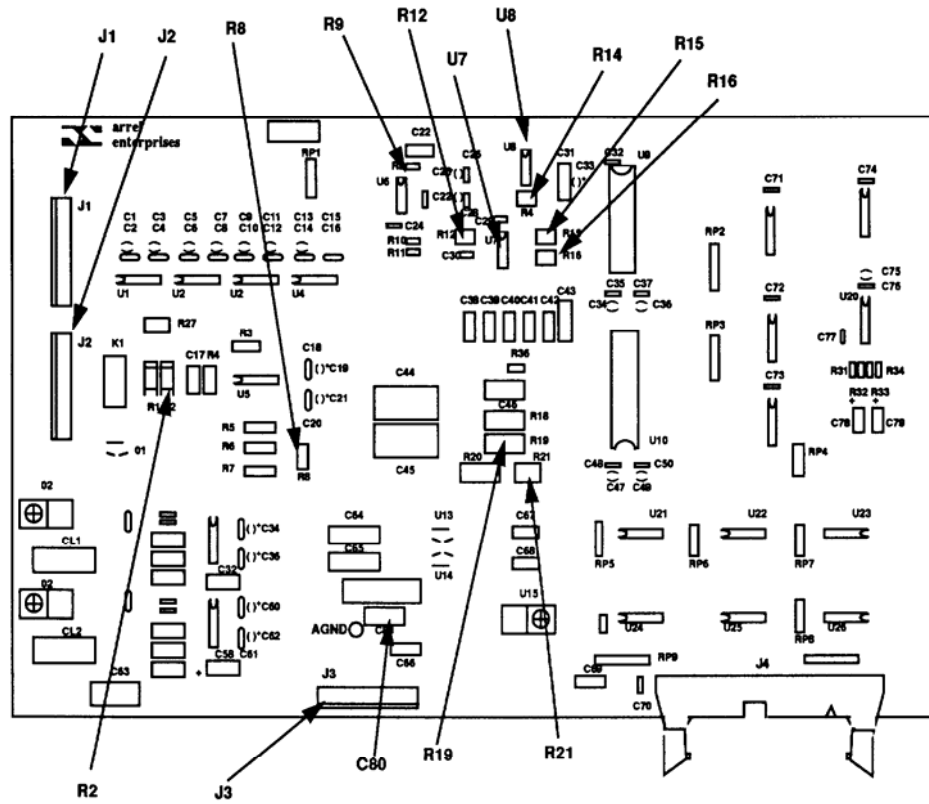
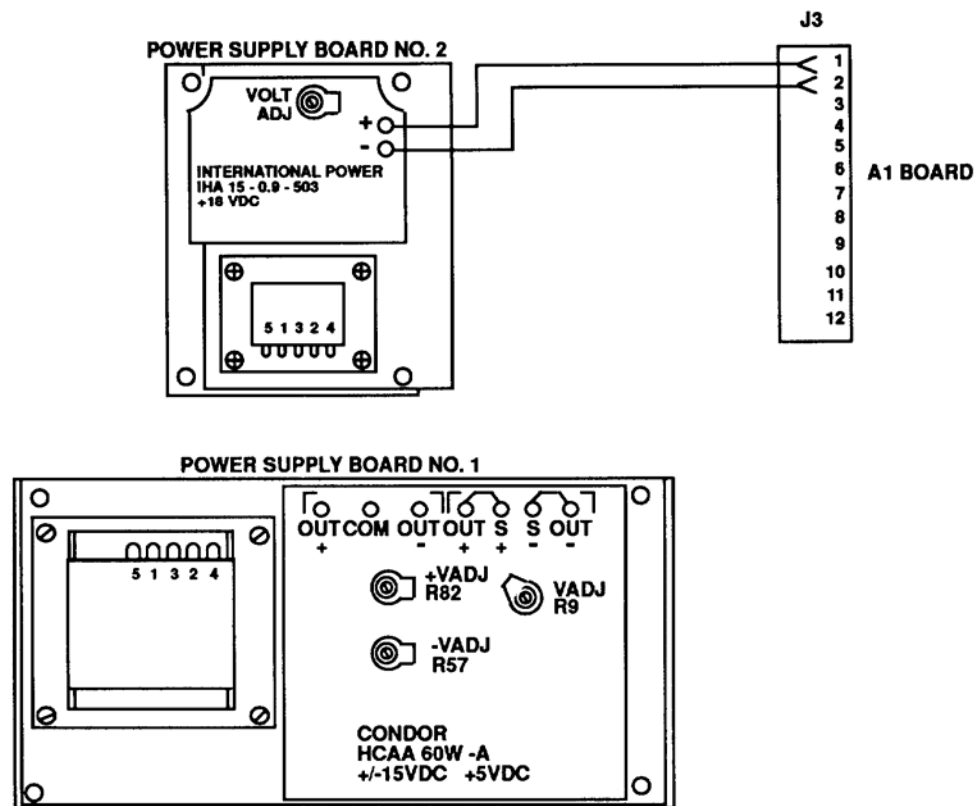

Figure 1. A1 adjustments board.
Figure 4. Test instrument power supply.
- d.** Install connector plug P1 into J1 (fig. 1) and P2 into J2 (fig. 1) of TI if not already installed.
(1) Measure the +5 V power supply with the multimeter by connecting the + (positive) lead to the +S terminal and the - (negative) lead to the -S terminal of POWER SUPPLY BOARD NO. 1 (fig. 4).
(2) Multimeter will indicate between +4.95 and +5.05 V dc; if not, perform **b** (1) below.
(3) Measure the +15 V power supply with the multimeter by connecting the + (positive) lead to the +OUT terminal and the - (negative) lead to the COM terminal on POWER SUPPLY BOARD NO. 1 (fig. 4).
- (4) Multimeter will indicate between +14.95 and +15.05 V dc; if not, perform **b** (2) below.
- (5) Measure the -15 V power supply with the multimeter by connecting the + (positive) lead to the -OUT terminal and the - (negative) lead to the COM terminal on POWER SUPPLY BOARD NO. 1 (fig. 4)
- (6) Multimeter will indicate between -14.95 and -15.05 V dc; if not, perform **b** (3) below.
- (7) Measure the +18 V power supply with the multimeter by connecting the + (positive) lead to pin 1 and the - (negative) lead to pin 2 of J3 (fig. 1) on the A1 board.
- (8) Multimeter will indicate between +17.90 and +18.10 V dc; if not, perform **b** (4) below.
- (9) Measure the excitation voltage with the multimeter by connecting the + (positive) lead to the left side of R2 when facing the front of TI and the - (negative) lead to the - (negative) side of C80 (fig. 1) on the A1 board.
- (10) Multimeter will indicate approximately +15.0000 V dc. Record this voltage to 4 decimal places.
- (11) Multiply the voltage in (10) above by 1.7 then divide the results by 15. The resulting voltage should be approximately 1.70000 V dc. Record this voltage to 5 decimal places.
- (12) Measure the 15 bit A/D converter reference voltage with the multimeter by connecting the + (positive) lead to the front end of R19 (fig. 1) and the - (negative) lead to the AGND (fig. 1) on the A1 board. Record this voltage to 5 decimal places.
- (13) The voltage measured in (12) above should be equal to the voltage calculated in (11) above; if not, perform **b** (5) below and record the final voltage to 5 decimal places.
- (14) Set the **MODE** switch to select the **DYNAMIC** mode.
- (15) Measure the excitation voltage with the multimeter by connecting the + (positive) lead to the left side of R2 (fig. 1) when facing the front of the TI and the - (negative) lead to the - (negative) side of C80 (fig. 1) on the A1 board.
- (16) Multimeter will indicate approximately +15.0000 V dc. Record this voltage to 4 decimal places.
- (17) Multiply the voltage measured in (16) above by 10 then divide the results by 15. The resulting voltage should be approximately 10.0000 V dc. Record this voltage to 4 decimal places.
- (18) Measure the 11 bit A/D converter reference voltage by connecting the multimeter + (positive) lead to pin 6 of U7 (fig. 1) and the - (negative) lead to the - (negative) side of C80 (fig. 1). Record this voltage to 4 decimal places.
- (19) The voltage measured in (18) above should equal the voltage calculated in (17) above; if not, perform **b** (6) below. Record this voltage to 4 decimal places.
- (20) Set the **MODE** switch to **STATIC**. Press and release **0** key. The message **Enter Cal Mode Num!** should be displayed.
- (21) Press **2** key to ground the input of the amplifier. A flashing **C** will be displayed. This indicates that the calibration mode is active.
- (22) Repeatedly press and release the down arrow key until the displayed units are **Unc Avg**.
- (23) Display will flicker between  $\pm 0$ ; if not, perform **b** (7) below.
- (24) With the multimeter measure the voltage between AGND (fig. 1) and jumper R9 (fig. 1) by connecting the + (positive) lead to jumper R9 and the - (negative) lead to the AGND pad. This voltage should be close to 0 V dc. Record this voltage.
- (25) With the multimeter measure the voltage between U8 (fig. 1) pin 5 and AGND (fig. 1) by connecting the + (positive) lead to U8 pin 5 and the - (negative) lead to the AGND pad.
- (26) Multimeter will indicate the same voltage as measured in (24) above; if not, perform **b** (8) below.
- (27) Press **0** key to deactivate the calibration mode.
- (28) Press **0** key to activate the calibration mode; the message **Enter Cal Mode Num!** should be displayed.
- (29) Press **5** key to read the strain gage simulator input signal. A flashing **C** should be displayed in the leftmost display segment, indicating the calibration mode is active.